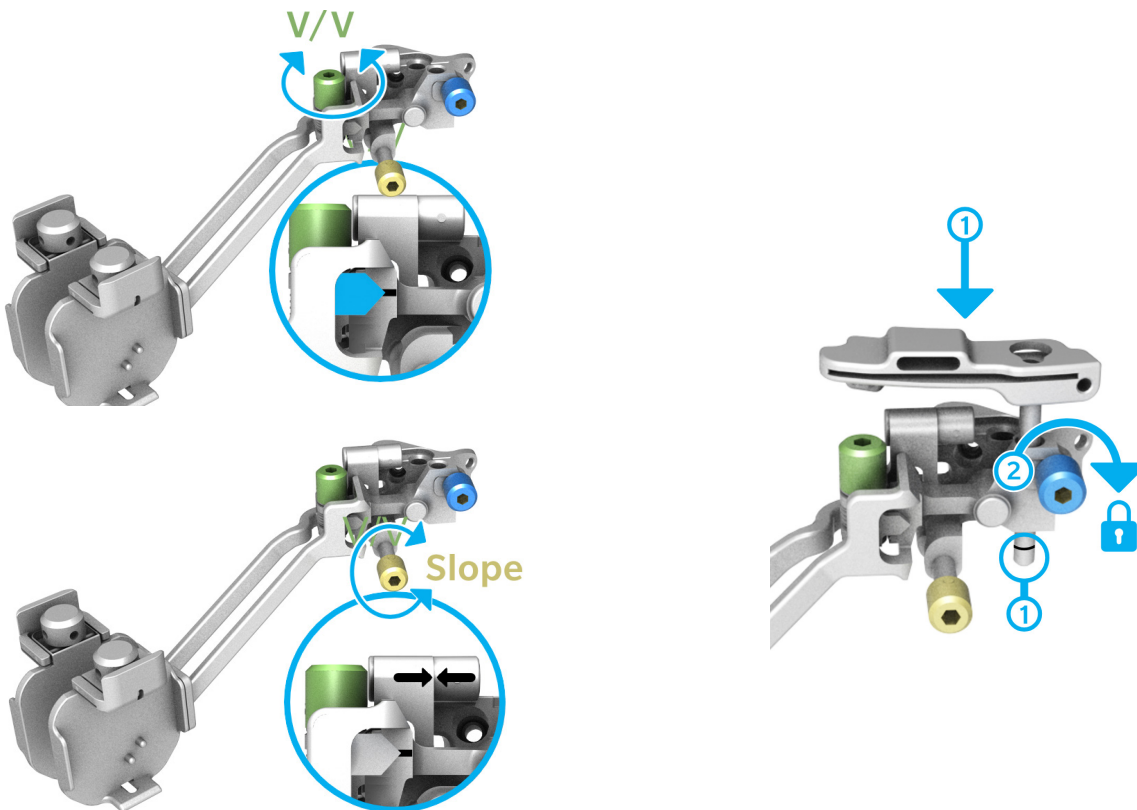

Figure 3.1.2
1. Using the green screw, set the varus/valgus of the Tibial Adjustment Mechanism to the neutral position by aligning the arrow with the laser marking (v/v). (See figure 3.1.2)
2. Using the gold screw, set the tibia slope of the Tibial Adjustment Mechanism to the neutral position by aligning the laser marked arrows (slope) respectively. (See figure 3.1.2)